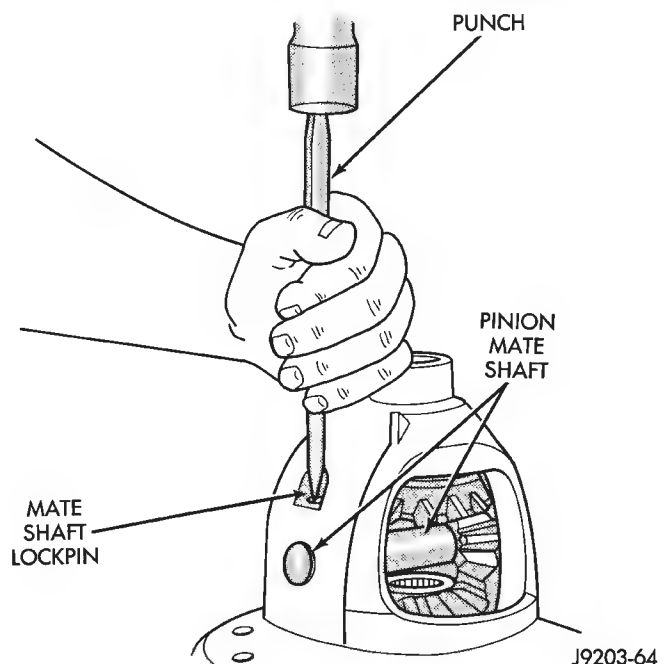

Fig. 37 Mate Shaft Pin Installation
(1) Install the following components in the differential case (Fig. 37).
(2) Install and seat the locking roll pin in the differential case and mate shaft with a punch and hammer (Fig. 37). Peen metal part of case over pin in two places 180 degrees apart.